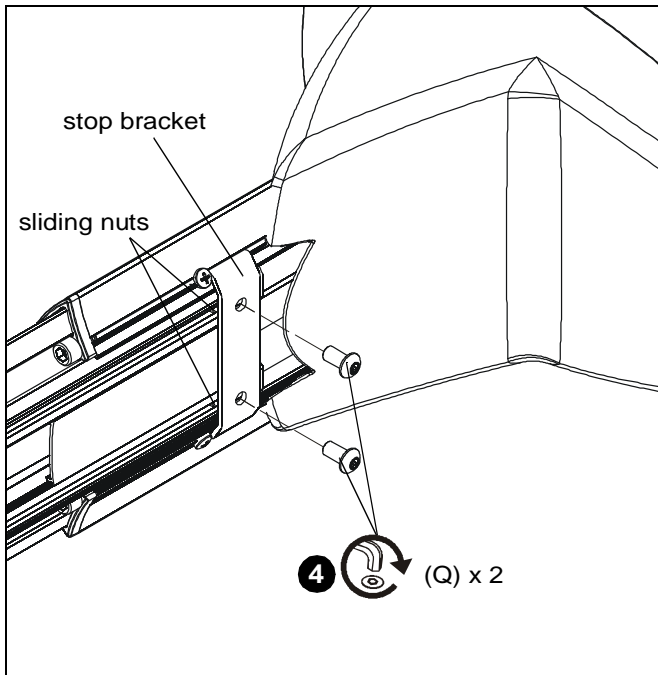

Figure 30
4. Install two 1/4-20 x 1/2" button head security screws (Q) through holes in stop bracket and into holes in sliding nuts. (See Figure 30)